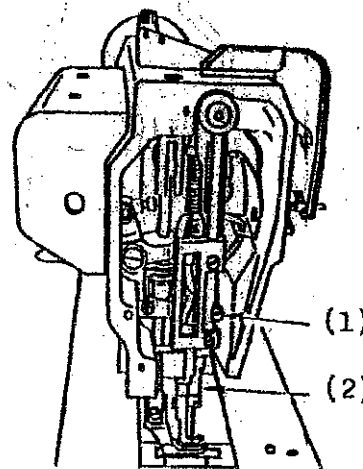

Fig.29
3. Adjusting the height of the needle(Fig.29)